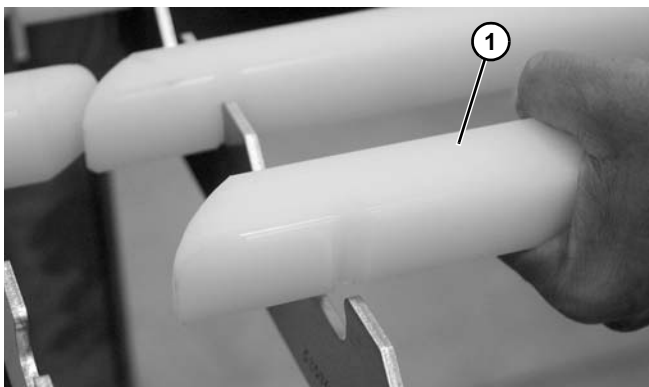

Figure 34
5. Remove wearstrips (**Figure 34, item 1**).